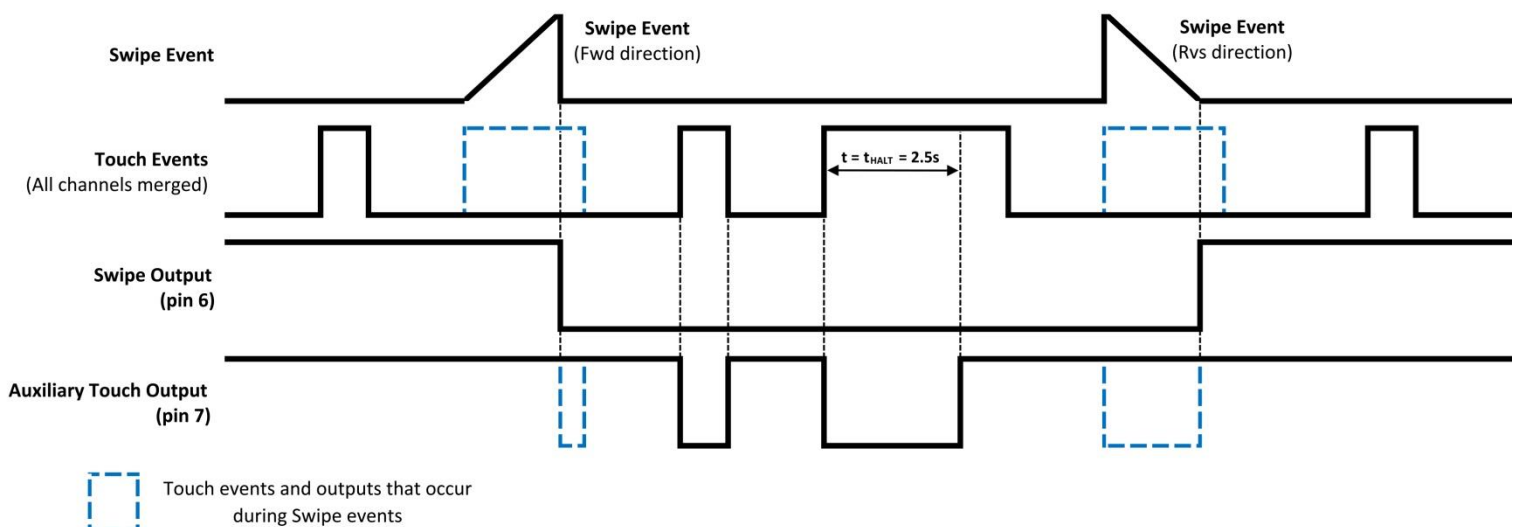

Figure 5.1 : IQS213A setup example 1
Example 1 (see **Figure 5.1**) illustrates the user interface (UI) and device outputs for a **3-Channel Self Capacitive SwipeSwitch** (output on pin 6), in an active low configuration with the Directional UI and Auxiliary **Touch** Output on pin 7.